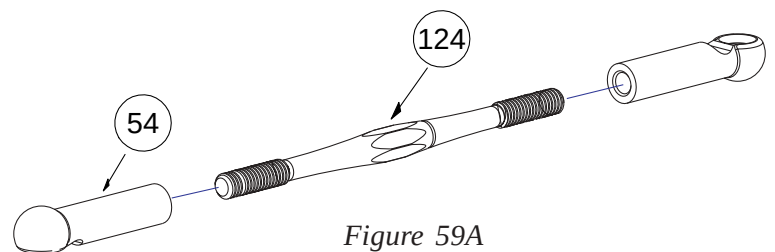

Figure 59A
Step 20. Thread a long plastic rod end (54) onto each end of a 2-1/2 inch turnbuckle (124). Tighten both rod ends (54) equally until the rod is the same length as the one shown in Figure 59A. Make two of these rear camber link assemblies.